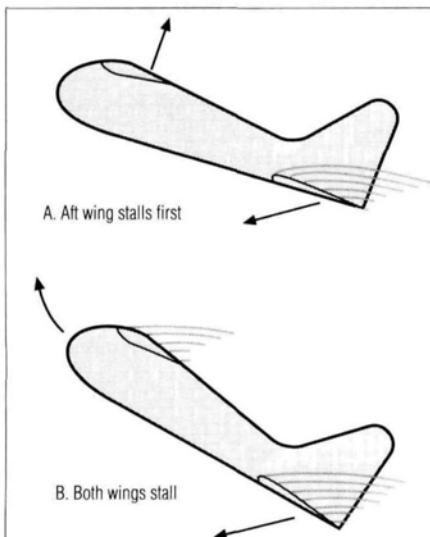

Figure 7. Nose-up pitch as aft wing stalls first.
- The front wing *must* stall before the main wing stalls. If the main wing stalls first, the scenario depicted in Figure 7 will result; at low altitude, a crash is inevitable.